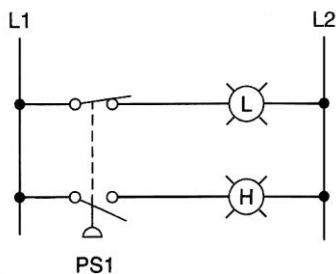

Figure 6-26 Hardwired circuit for assignment 2.
2) The hardwired circuit shown in Figure 6-26 can be programmed to show how a single-pole input device can be programmed as a double-pole input device. Prepare an I/O connection diagram and ladder logic program for the circuit using only the single set of NO contacts of the pressure switch. Enter the program into the PLC, and prove its operation.